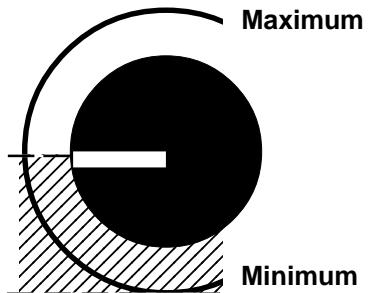

Figure 6
**NOTE: Each input volt equals 12.5 psi output pressure. For example, at 65 psi input, the potentiometer would operate between minimum and half-way to maximum on the dial to achieve maximum performance of this unit. (See Fig. 6).**